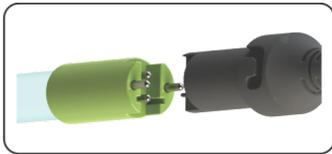

Figure 8a. Standard Output UV Lamp Connection
Step 13: Plug the LUMI-Loc™ lamp connector into the lamp. Note the keying for proper alignment (see Figure 8a, 8b). Insert the lamp connector into the gland nut and turn the connector approximately ¼ turn to lock the connector to the gland nut as in Figure 10.